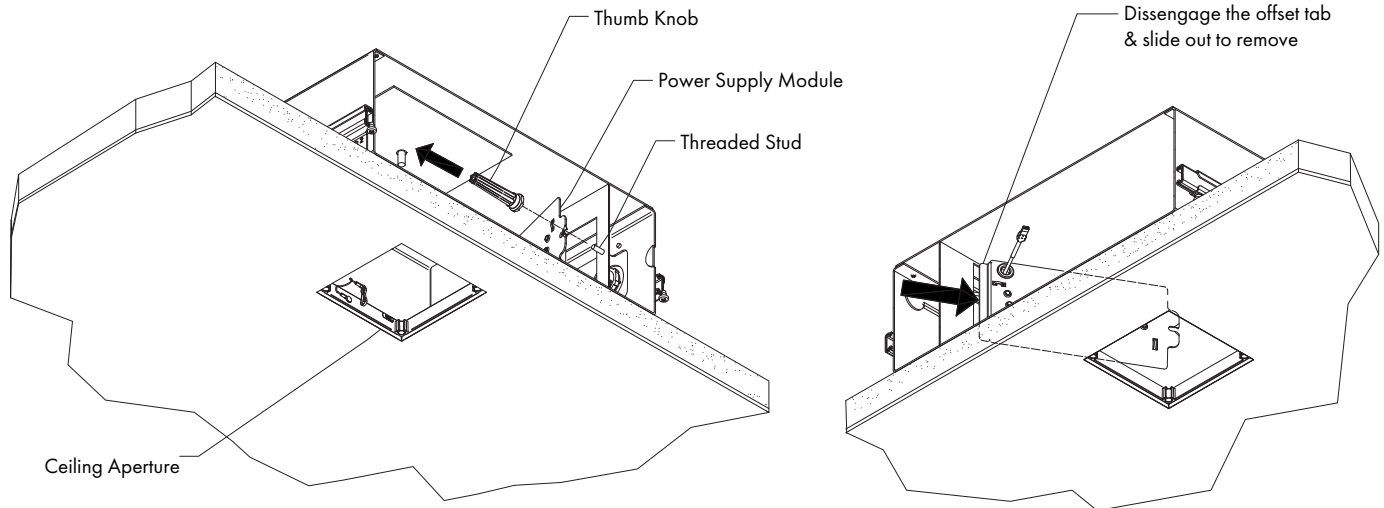

FIG 12.1 Remove Thumb Knob & Disengage Power Supply Module (Model 804 shown)
Step 2 Unscrew & remove Thumb Knob inside Housing as shown. Tilt Power Supply Module to disengage offset tab from housing as shown - **FIG 12.1**.